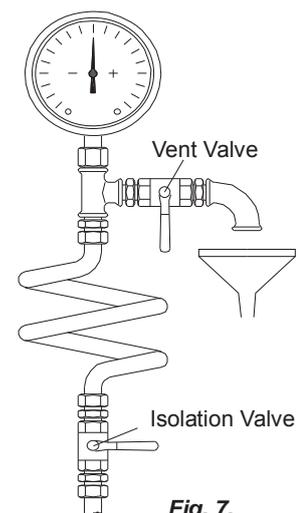

Fig. 7.
- Pressure and vacuum gauges must be properly anchored and connected at the measuring points located on the pump flanges by means of or on the pipes close to the flanges approximately 8 mm diameter tubing with pig tail configuration to lessen pressure fluctuation. For safety purposes isolating and vent valves should be fitted before the gauges (Fig. 7).